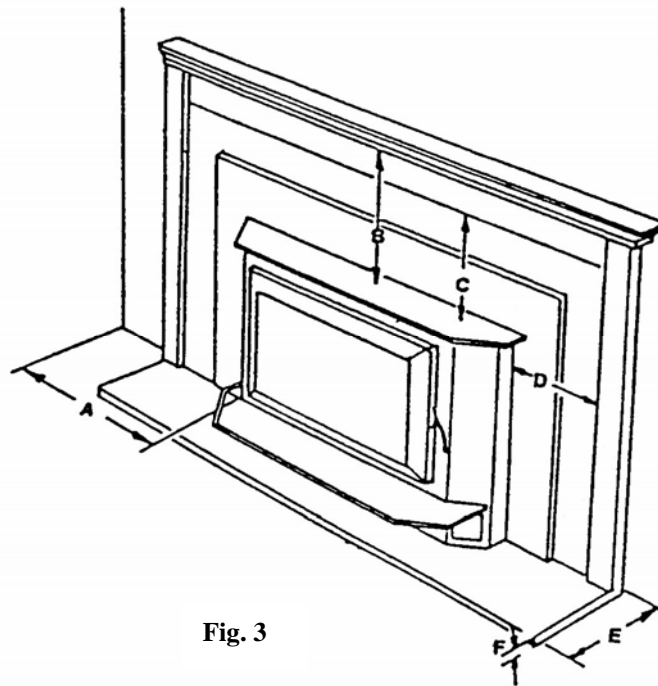

Fig. 3
7. Masonry Clearances: The minimum required clearances to combustible materials when installed into a masonry fireplace are (Fig. 3).